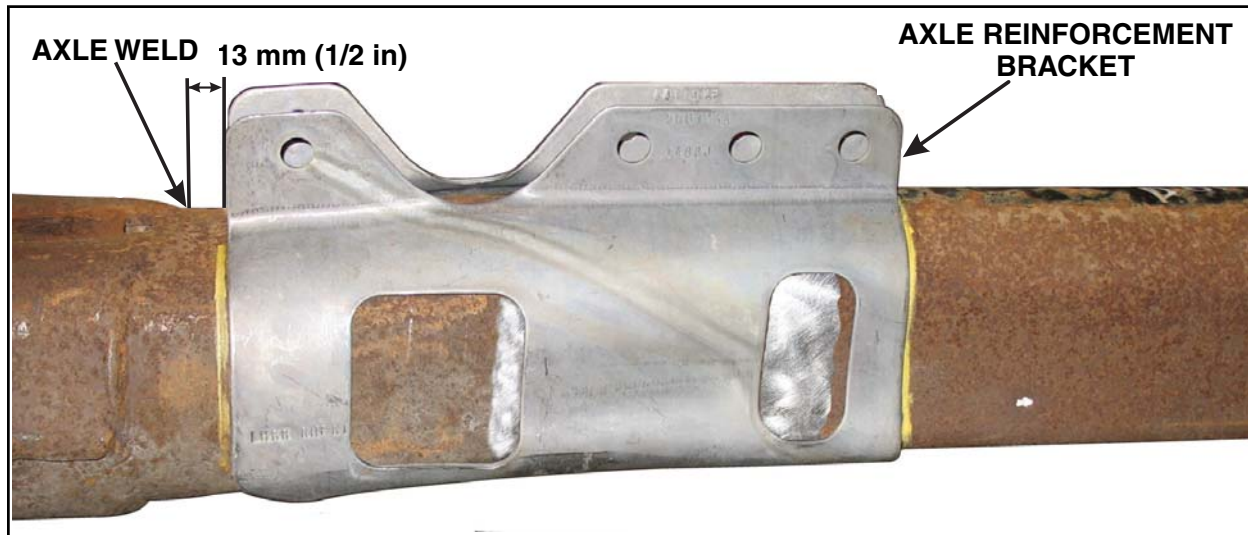

FIGURE 3
6. Using a hammer, dry fit both sets of axle reinforcement brackets 13 mm (1/2 in) from the top of the axle weld. Using a paint pen or marker, outline the outer edges of the axle reinforcement brackets. See Figure 3.